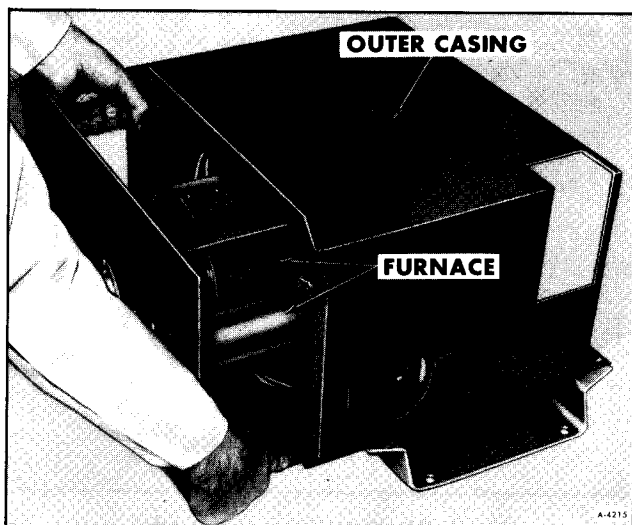

Figure 19—Removing Furnace from Outer Casing
3. Remove furnace from outer casing (See figure 19).
5. Install furnace in outer casing (See figure 19).
4. Install furnace in outer casing (See figure 19).
3. Install furnace in outer casing (See figure 19).
4. Install wiring access cover (See figure 19).